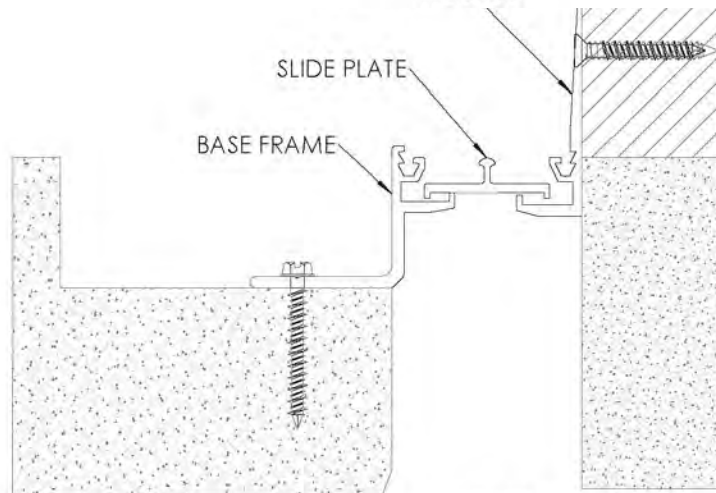

FIGURE 4
4. Place slide plate (not required on 1” joint sizes ) in the lower channel of the base frame and wall frame with the bent ends of the plate pointing downwards. **See Figure 4**